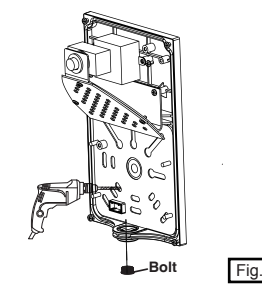

Fig.2
2. The luminaire must be processed according to the corresponding mounting hole of the junction box.(Fig. 2)